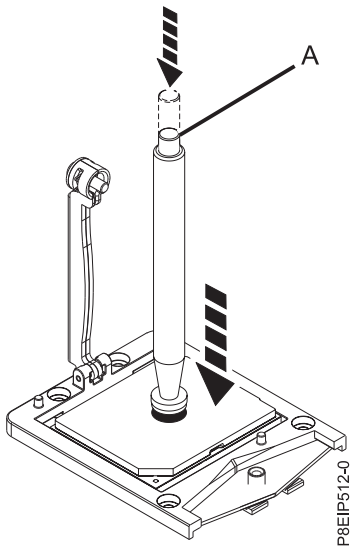

Figure 38. Lowering the removal tool onto the system processor module
8. Lower the vacuum pen tool onto the system processor module to install. Fully press the top of the pen (A) and hold the pen in the center of the system processor module as shown in Figure 38. Release the top of the pen to fasten the pen onto the system processor module.